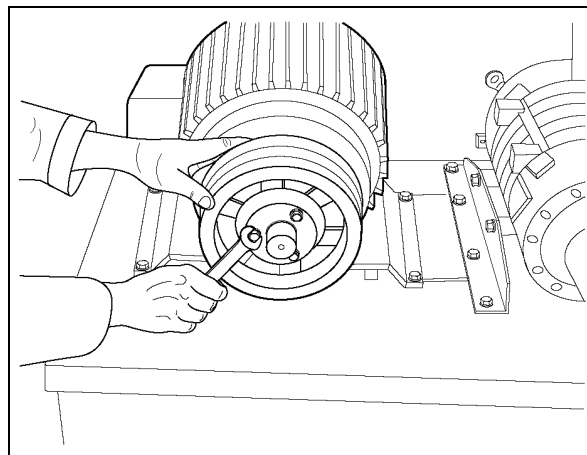

Figure 7C
4. Place the specified pulley onto the motor and align it with the blower pulley. *(See Figure 7C).*